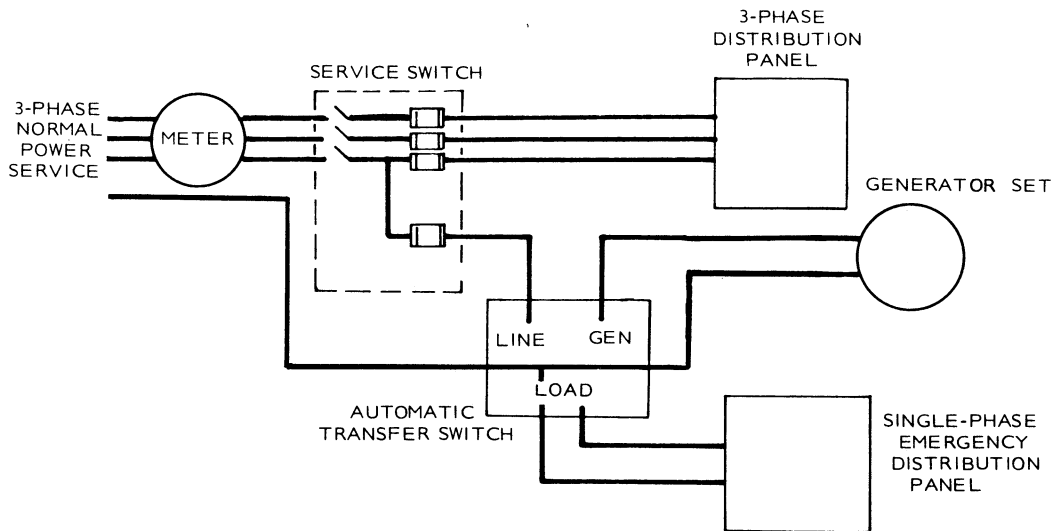

FIGURE 7. THREE-PHASE SERVICE AND SINGLE-PHASE STANDBY SERVICE
3. Generator set protects one phase of a three-phase system (Figure 7).